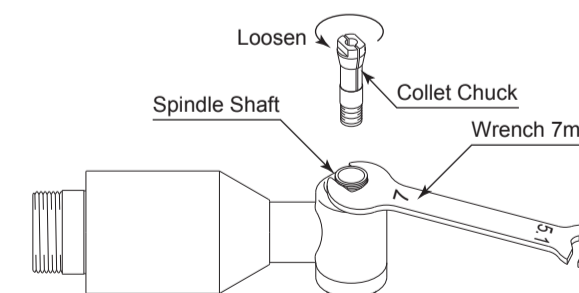

Fig. 4
- Place the provided 7mm wrench on the spindle shaft, and turn the top of the collet chuck counterclockwise to remove the collet chuck (Fig. 4).